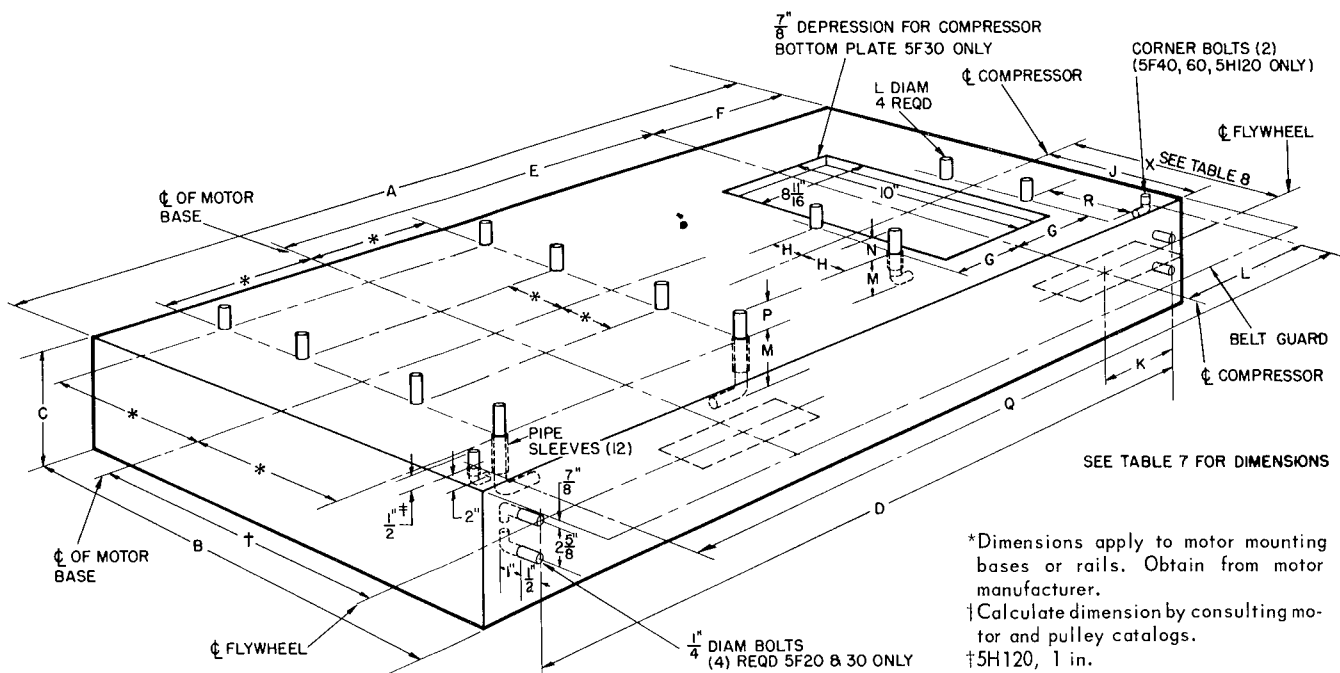

Fig. 8 - Concrete Foundation Details - Sizes 5F20,30,40,60; 5H40,60,80,120
**Concrete Foundations** one to two times the weight of the machinery they support will absorb vibration. See Fig. 8 and Tables 7 and 8 for recommended dimensions. Let foundation set sufficiently before compressor is installed (approximately 3 days). Allow for 3/8 inch to 1/2 inch grout after compressor is installed.
**Table 7 - Concrete Base Dimensions (Fig. 8)**
**Table 8 - Distance Between Compressor and Flywheel Centerlines (Fig. 8)**
**Compressor Bolted to Concrete Base -** See Fig. 8. Set compressor level on foundation bolts. (Level in two directions.) Removal of discharge shut-off valve exposes face of mounting flange on compressor which can be used as a leveling pad. Locate and level motor slide rails. Provide for 3/8 inch to 1/2 inch grout. Tighten foundation bolts handtight. Do not use wrench.